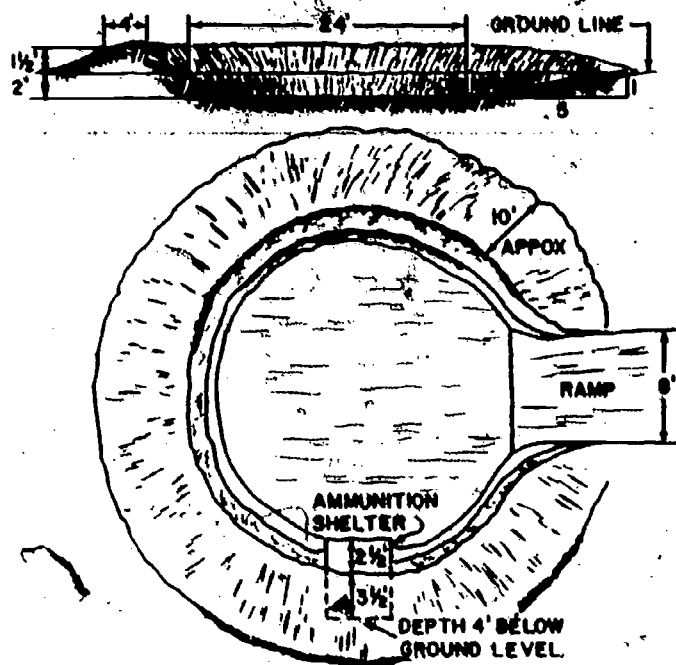

Fig 3-22. Deliberate 105-mm howitzer emplacement.
- (1) **Hasty position.** Hasty positions are constructed when the equipment arrives at the firing position after the pieces have been set up or when they are not expected to remain in position for a long period of time. A dozer can be used to push up an earth parapet around the front and sides of the piece, leaving the rear open for the exit of the piece. For a 105-mm howitzer emplacement, the parapet should be 3 1/2-ft high and approximately 4-ft thick near the top. The outside of the parapet should slope gradually to the ground line. Overall width of the parapet at ground line should be approximately 10 ft. Overall diameter of the inside of the emplacement is 24 ft. All earthmoving is done from the outside toward the firing position. Do not tear up the ground unnecessarily. Back-blade the area when you are completed to help camouflage the firing position.
- (2) **Deliberate position (fig 3-22).** Deliberate positions are prepared in stable situations when the pieces are going to remain in position for a long period. The equipment arrives at and begins construction of the emplacements before the pieces arrive. These emplacements are similar to the hasty position except that they are partly below ground. This reduces the overall height of the parapet. The equipment prepares an entrance ramp and excavates a circular area 24 ft in diameter, moving the earth into a parapet. The position is 2 ft below ground level and there should be enough earth to complete the parapet without dozing from the outside of the position. The parapet for a deliberate emplacement is 1 1/2 ft above ground level. Later, the crews can improve the positions as needed with sandbags and logs. The weather may affect the construction of deliberate emplacements. During the rainy season, it may be impractical to dig below ground level.